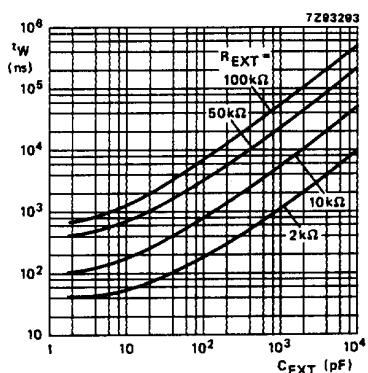

Fig.9 Typical output pulse width as a function of the external capacitor values at  $V_{CC} = 5.0$  V and  $T_{amb} = 25$  °C.
1. For other  $R_{EXT}$  and  $C_{EXT}$  combinations see Fig.9.